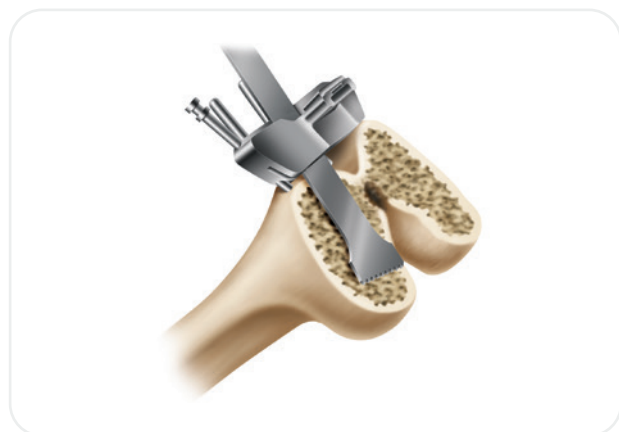

Figure 7
3. Resect the distal femur (**Figure 7**) then remove the distal femoral cutting block.